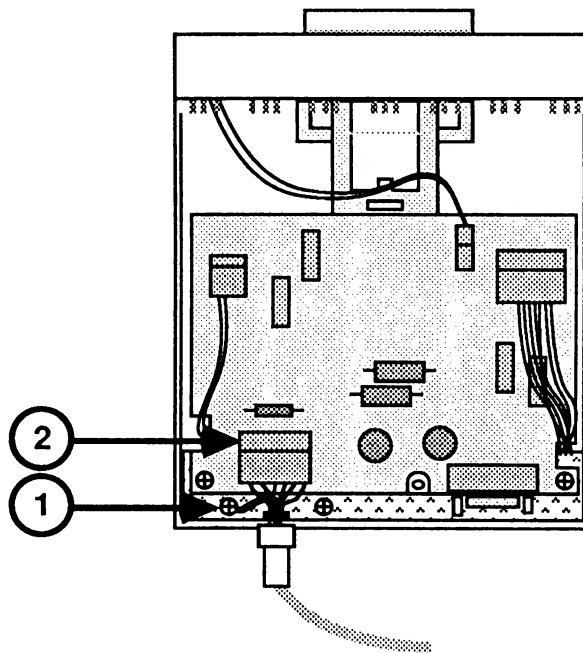

FIGURE 5
2. Remove the Phillips screw (Figure 5, #1) that secures the cable ground terminal and the case ground strap to the chassis.
3. Disconnect the bus connector from header J2 on the analog board (Figure 5, #2), and pull it back through the hole in the metal backplate.
2. Replace the Phillips screw to secure the cable ground terminal and the ground strap to the chassis (Figure 5, #1).
3. Push the bus connector back through the hole in the metal backplate and reconnect it to header J2 on the analog board (Figure 5, #2).